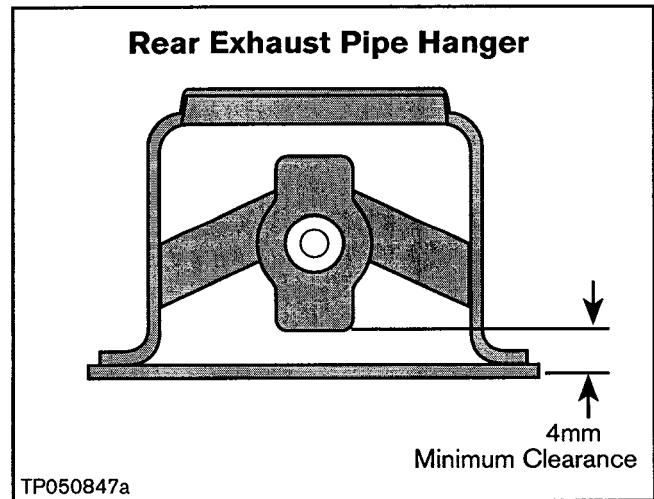

Figure 13
14. Make sure the clearance at the Rear Exhaust Pipe Hanger is at least 4mm (see Figure 13).